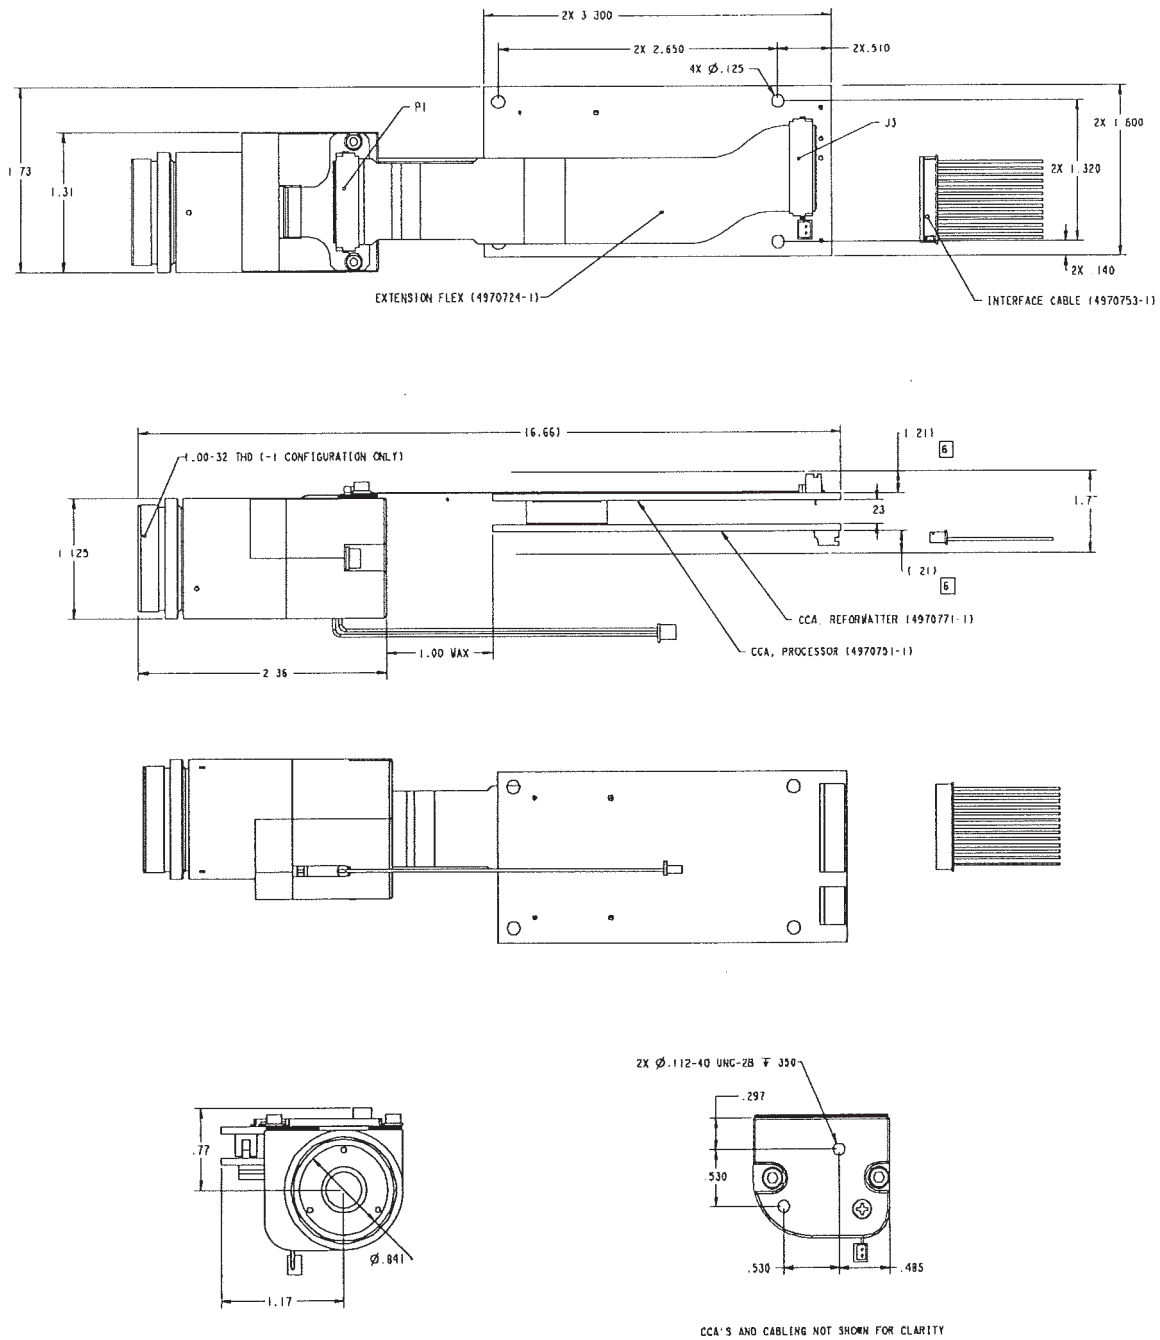

Figure 4. ControlIR 2000AS Silicon Camera (50° FOV) Profile Views (dimensions are in inches)
Mechanical dimensional profile view drawings, showing front, top, side and bottom dimensions are shown in **Figure 4**. For electronic copies of the computer aided design drawings, defining detailed quantitative dimensions, contact Raytheon Commercial Infrared Customer Service at (800)-990-3275.